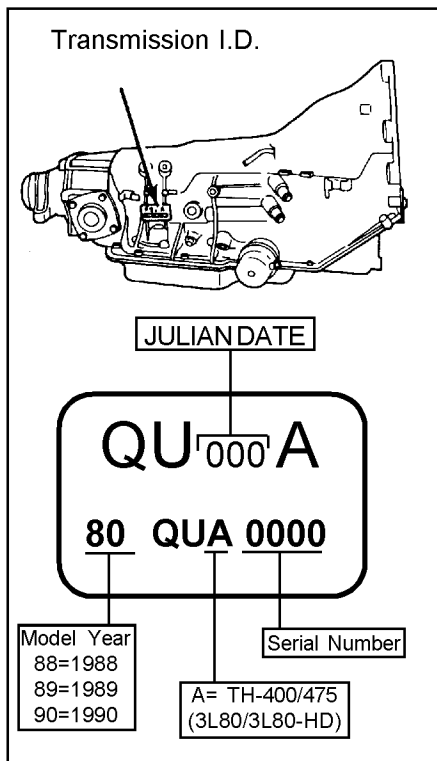
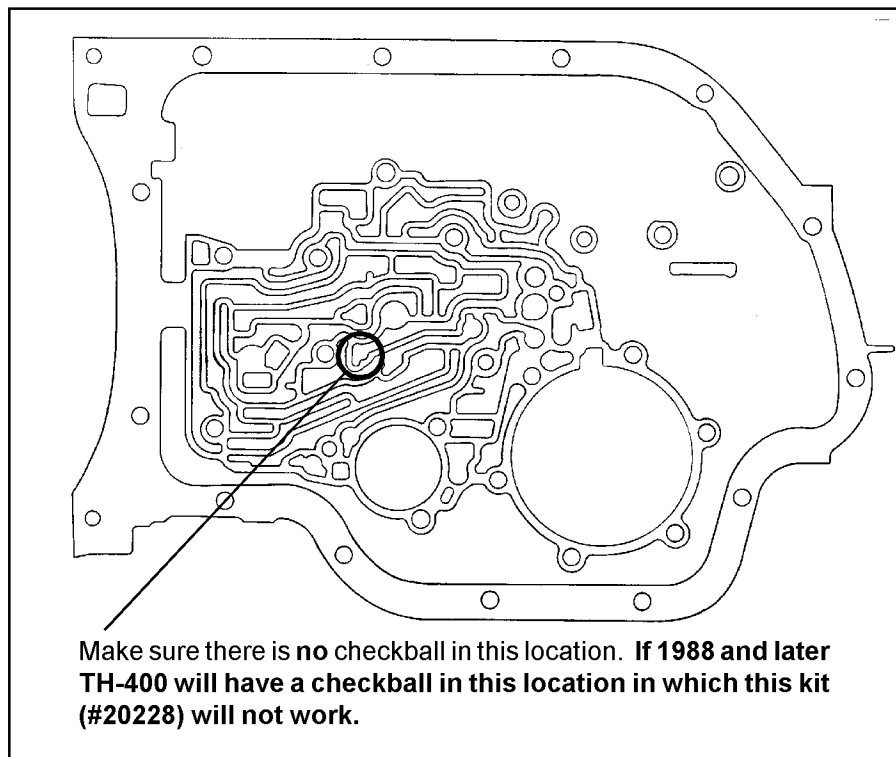

Figure 1
Figure 2
**IMPORTANT NOTICE:** Hydramatic introduced a revised transmission case just after the beginning of the 1988 model year. If you are installing the **B&M TH-400 Transpak** in a late model vehicle which has had the transmission replaced after 1988 you must check the Julian date stamped on the transmission's I.D. tag (See Fig. 1) before attempting to install this kit. Do not use this kit (# 20228) in transmissions built on or after November 23, 1987 (Julian date 327). If the I.D. tag is unreadable or missing you will have to remove the oil pan and valve body from the transmission to determine if your transmission has an early or late style case (See Fig. 2). This kit (#20228) will work correctly in all 1965 through 1987 TH-400 transmissions.